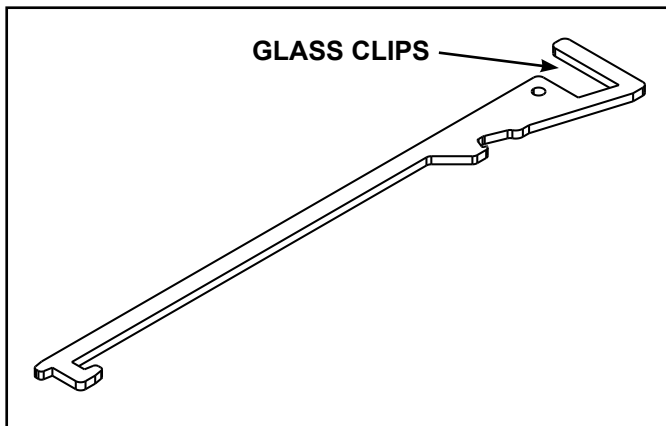

Figure 4.1 Multi-Purpose Tool
- To release glass assembly, use the supplied multi-purpose tool. See Figure 4.1. While supporting glass assembly, pull the two bottom spring-loaded latches forward and allow them to retract away from the glass assembly. Tilt the bottom of the glass assembly outward until the top latches disengage.